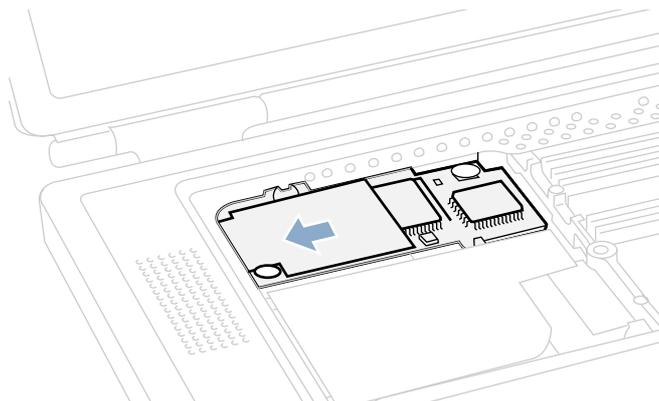

Figure 11
2. Carefully guide the cable into the space under the edge of the keyboard opening and lay the modem into the modem opening (**Figure 11**).